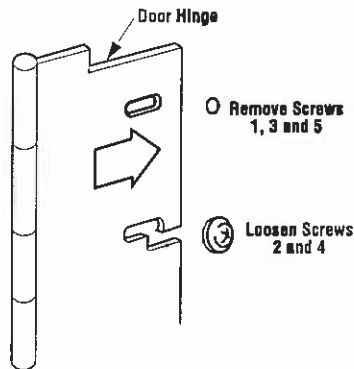

Figure 45
**Step 1.** Behind each screen assembly, on both sides of the firebox, there are five (5) screws that are oriented in a vertical fashion. Two (2) of these screws (2 per side) must be loosened and must remain in place. Remove the three (3) remaining screws (3 per side) from the fireplace and set aside (Figure 45).